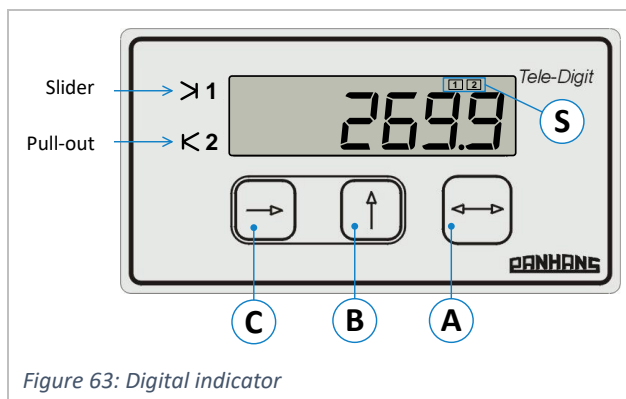

Figure 63: Digital indicator
- Select the “slider” with button A (see ⇒ Figure 63):
- The symbol (S) for the active slider (1) appears in the top line of the display.
- Select the “pull-out” with button A (see ⇨ Figure 63):